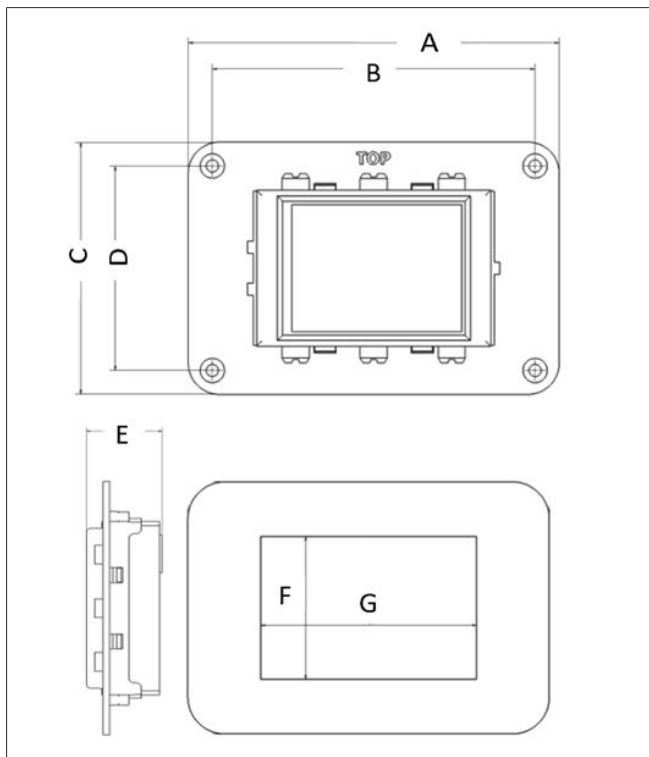

Fig. 15
1. Make the cut-out for the control element in the required position. See Fig. 15 for the cut-out dimensions.